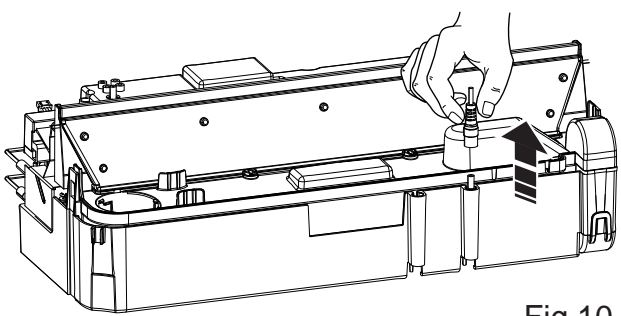

Fig.10
Warning – Always press Switch 'A' to the 'OFF' (0) position (Fig.10) and disconnect from the power supply before cleaning the fire.